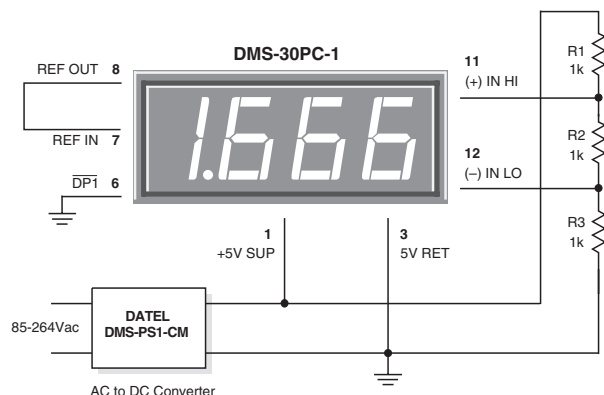

Figure 3. Differential Input Configuration
- 2. Differential Input Configurations:** Differential measurements can be made with all DMS-30PC meters. Figure 3, though not a practical real-world application, uses a voltage divider to demonstrate the concept of a differential input signal. Be careful not to exceed the $\pm 2V$ common mode voltage limitation for 5V-powered meters.